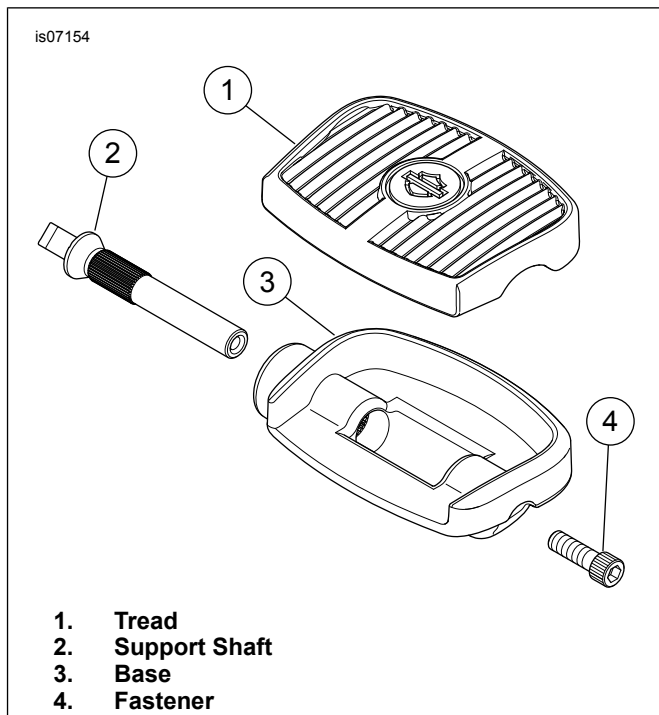

Figure 3. Mini-Footboard Kit: All Except 50451-09, 50501148, 50501225
- For all except Kit 50451-09, see Figure 3. Fasteners (4) 94334-91T (chrome) and 12600031 (black) are available service parts.
7. **To adjust the footboard for comfort: all except 50451-09 kit, see Figure 3.**
- a. Remove the adjustment screw (4).
- b. Partially remove the tread assembly (1 and 3) from the support shaft (2).